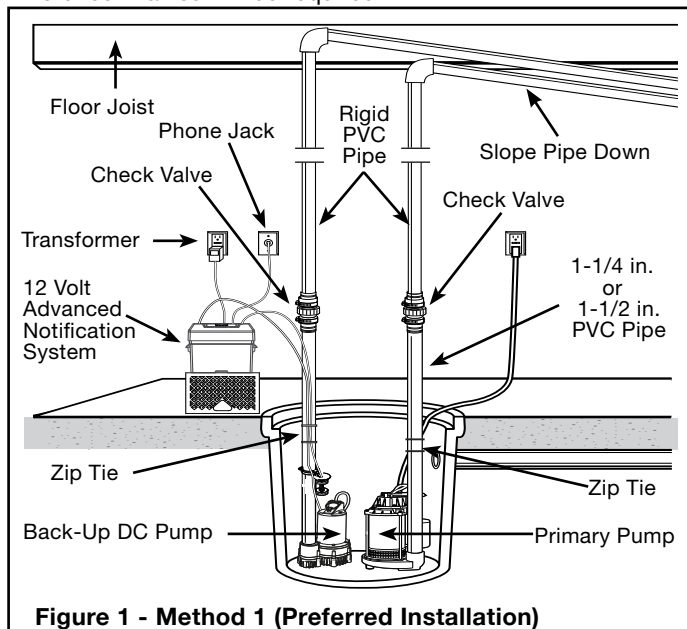

Figure 1 - Method 1 (Preferred Installation)
METHOD 1 (PREFERRED) - See Figure 1
Check valves MUST be installed in the discharge line of both the main AC pump and the back-up DC pump. Failure to install the check valves MAY allow water to recirculate into the sump pit. See Figures 1 and 2.
*Check valves **MUST** be installed in the discharge line of both the main AC pump and the back-up DC pump. Failure to install the check valves **MAY** allow water to recirculate into the sump pit. See Figures 1 and 2.*